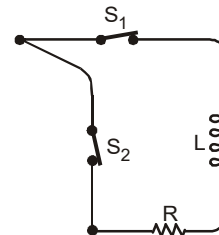

Fig. 1.133: When S_2 is closed and S_1 is opened
After $t = 5$ seconds, the switch S_2 is closed and the circuit becomes as shown in fig.1.133. The current starts decaying following the exponential law (BC) and is given by the equation ;